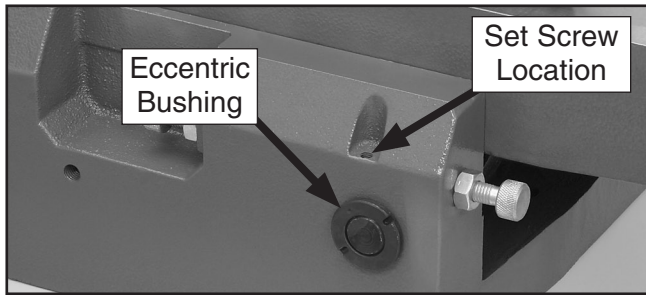

Figure 56. Eccentric bushing and set screw location.
2. Remove the set screw from each of the four eccentric bushings (**Figure 56**) under the outfeed table, and loosen the set screws underneath those removed set screws.